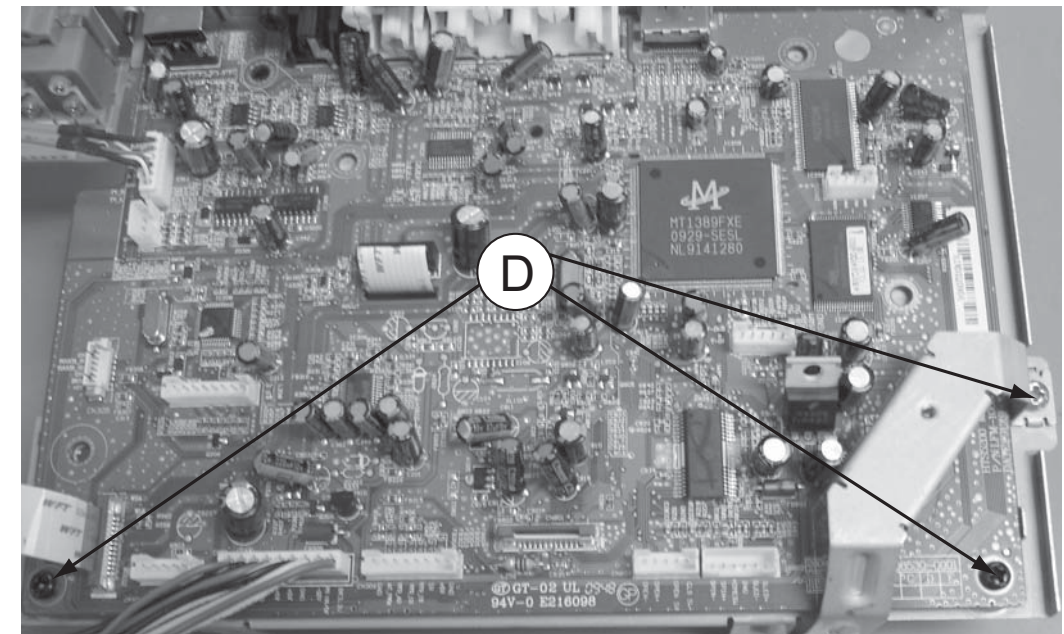

Figure 5
- 2) Loosen 3 screws "D" and loosen 7 screws "E" at the main PCB bracket as shown in figure 5&6 to remove main PCB.